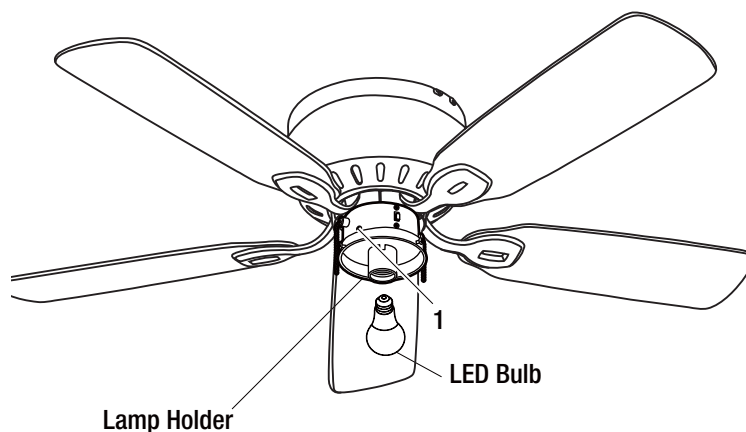

Figure 15
- Install a LED bulb (max. 9W, medium screw base) to the lampholder (Figure 15).